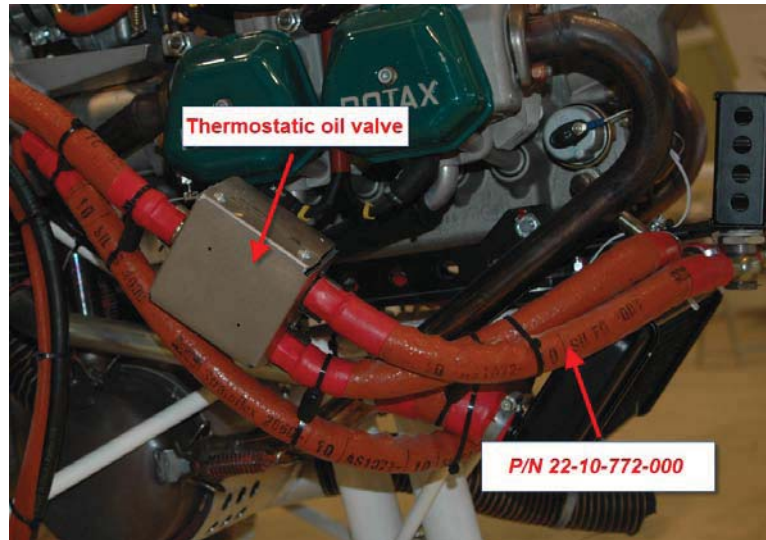

Figure 8 – P/N 22-10-772-000 installation
- 12** Install the “Assy tube from thermostatic oil valve to oil radiator” (22-10-772-000) as indicated in Figure 8.